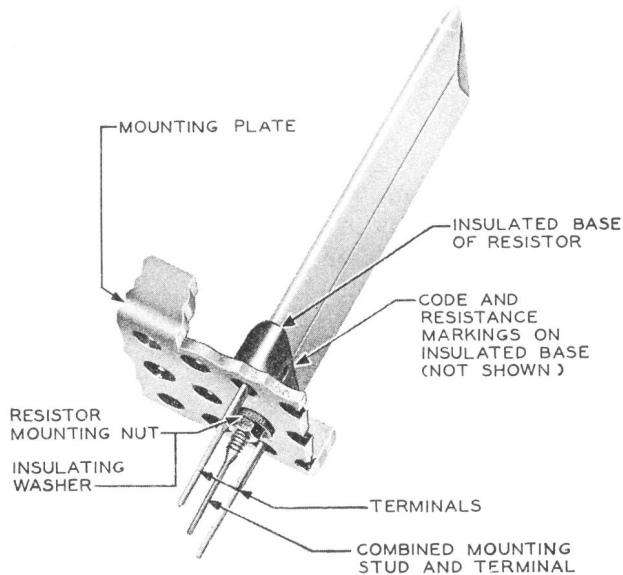

Fig. 1 – Mounting of 18- and 19-type Single Stud Resistors (19-type Resistor Shown)
3.03 Mounting Resistor: Fig. 1— If the resistor is to be mounted vertically, it should be positioned on the mounting plate with the code and resistance markings at the left as viewed from the apparatus side of the mounting plate. If the resistor is to be mounted horizontally, the markings should be at the top. Insert the resistor mounting stud and terminals through the proper holes in the mounting plate. From the wiring side of the mounting plate, hold one of the resistor terminals and position the resistor so that the projections on the insulated base are fully seated in the mounting plate holes. Place an insulating washer on the mounting stud and securely tighten the nut using the wrench portion of the No. 48 combination wrench and screwdriver.